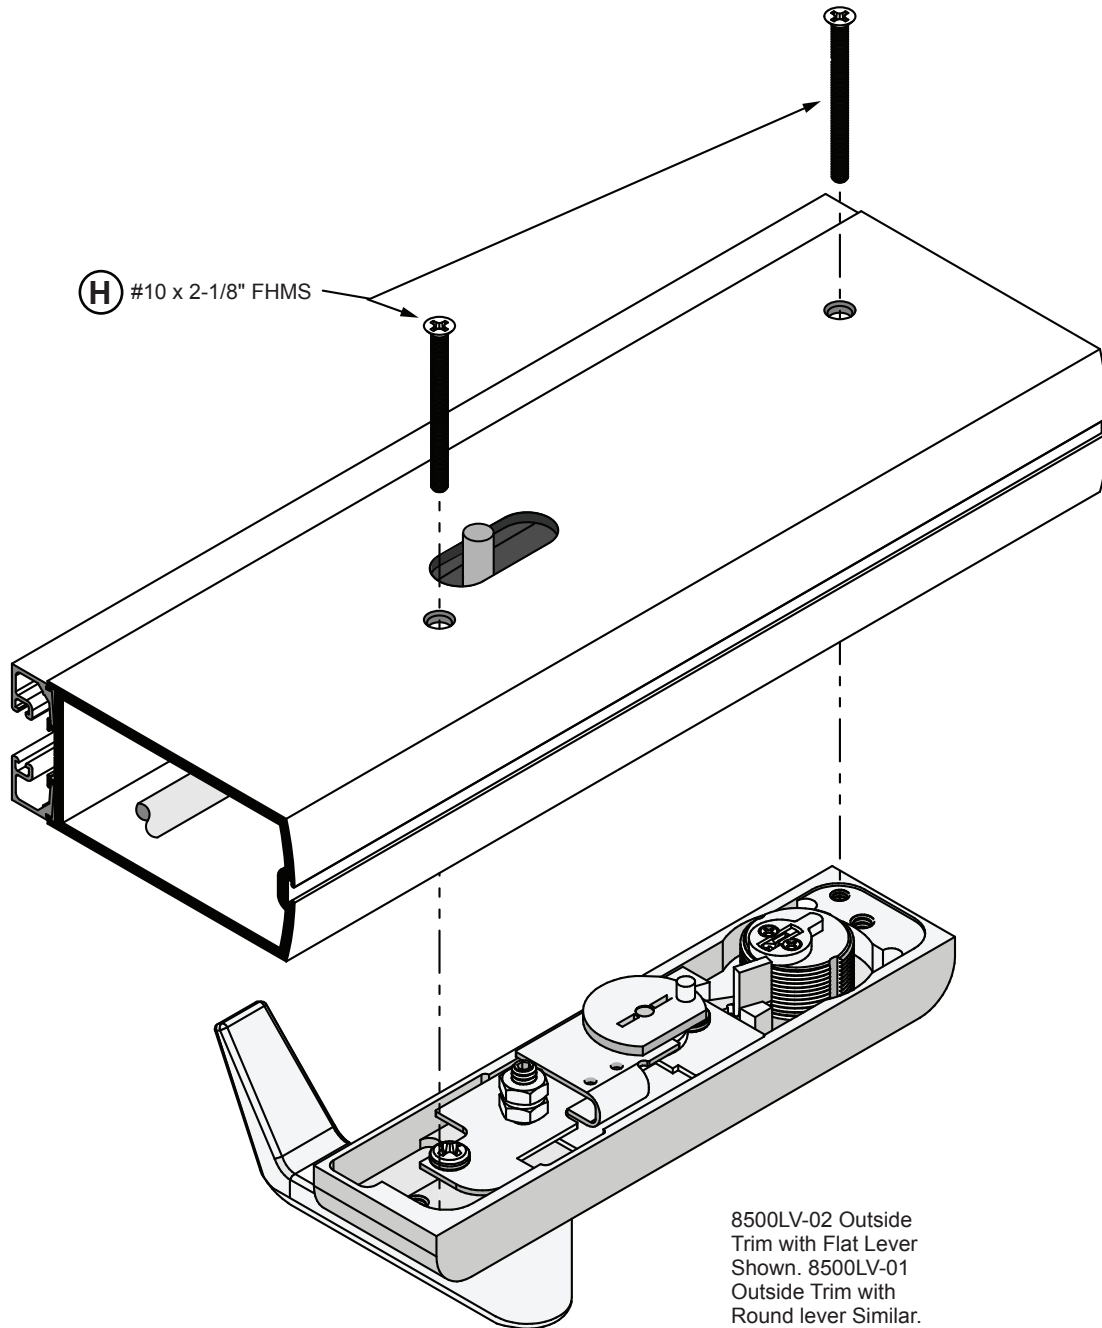

FIG. 12
1. Attach exterior trim with **(H)** (2) #10 x 2-1/8" FHMS as shown on (Fig. 12).